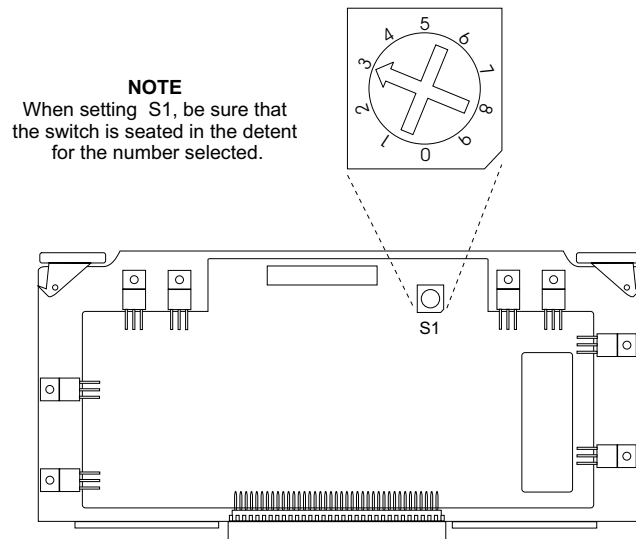

Figure 6-4. Switch S1 Location on the A14 PCB
Step 6 Set switch S1 (Figure 6-4) to the correct setting for the 683XXC model in which the A14 PCB is being installed (see Table 6-1).